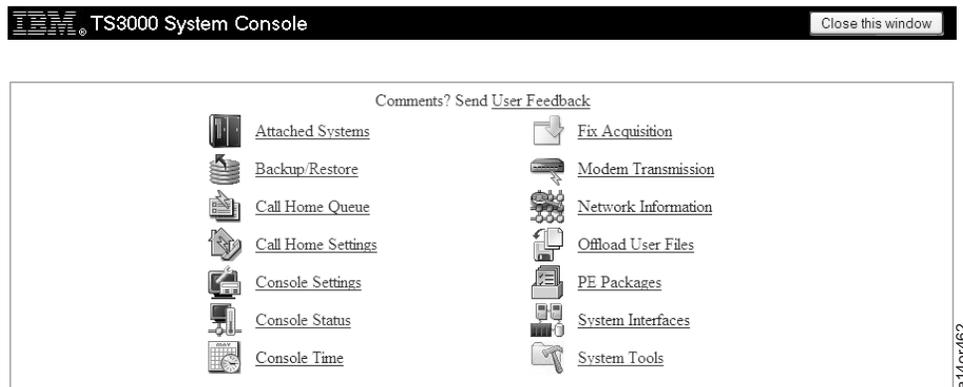

Figure 250. Main Configuration Screen
- Type **service** in the Username field, **service** in the Password field, then click **OK** to start the Console Configuration application. You see the Main Configuration screen shown in Figure 250.